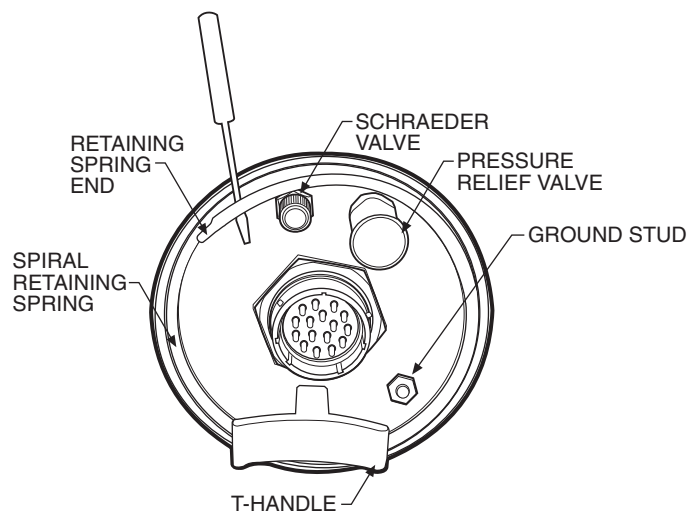

Figure 1. EH8106L Enclosure - Rear View
1. Remove the rear plate of the enclosure. Refer to Figure 1 and do the following:
Refer to Figure 1 and do the following to pressurize the inside of the enclosure with nitrogen:
3. Remove the center cap from the Schraeder valve. Refer to Figure 1.
5. Remove the rear plate of the enclosure. Refer to Figure 1 and do the following: